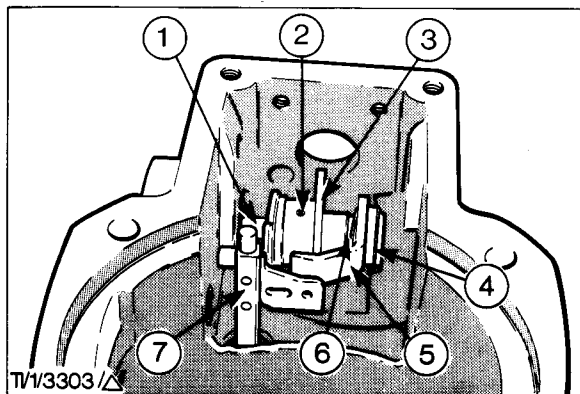

Fig. 48 - The Excess Fuel and Stop Control Shaft (Dover)
44. Withdraw the excess fuel shaft through the solenoid mounting aperture. Lift out the excess fuel lever and remove the washer located between the excess fuel and stop control levers (Fig. 48).